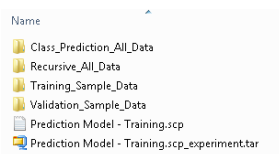

Figure 161 Folder containing example class prediction model and project
- Click **OK**. The project and experiment(s) are exported to the same location you saved your prediction model as shown in Figure 161 on page 140.